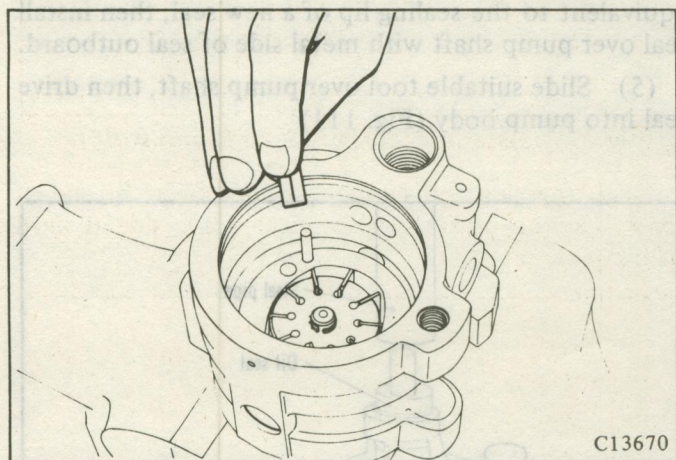

Fig. 105 Installing Vanes
(7) Install all ten vanes in rotor slots with rounded edge of vanes outward. Vanes should slide freely in rotor. (Fig. 105)